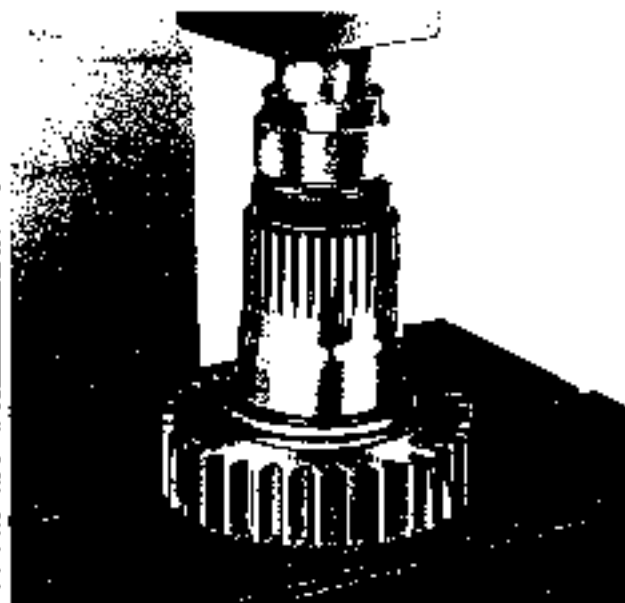

Figure 7-40. Pressing In Seal
10. See Figure 7-40. Turn over tool and press in seal using the 0.090 in. stop.